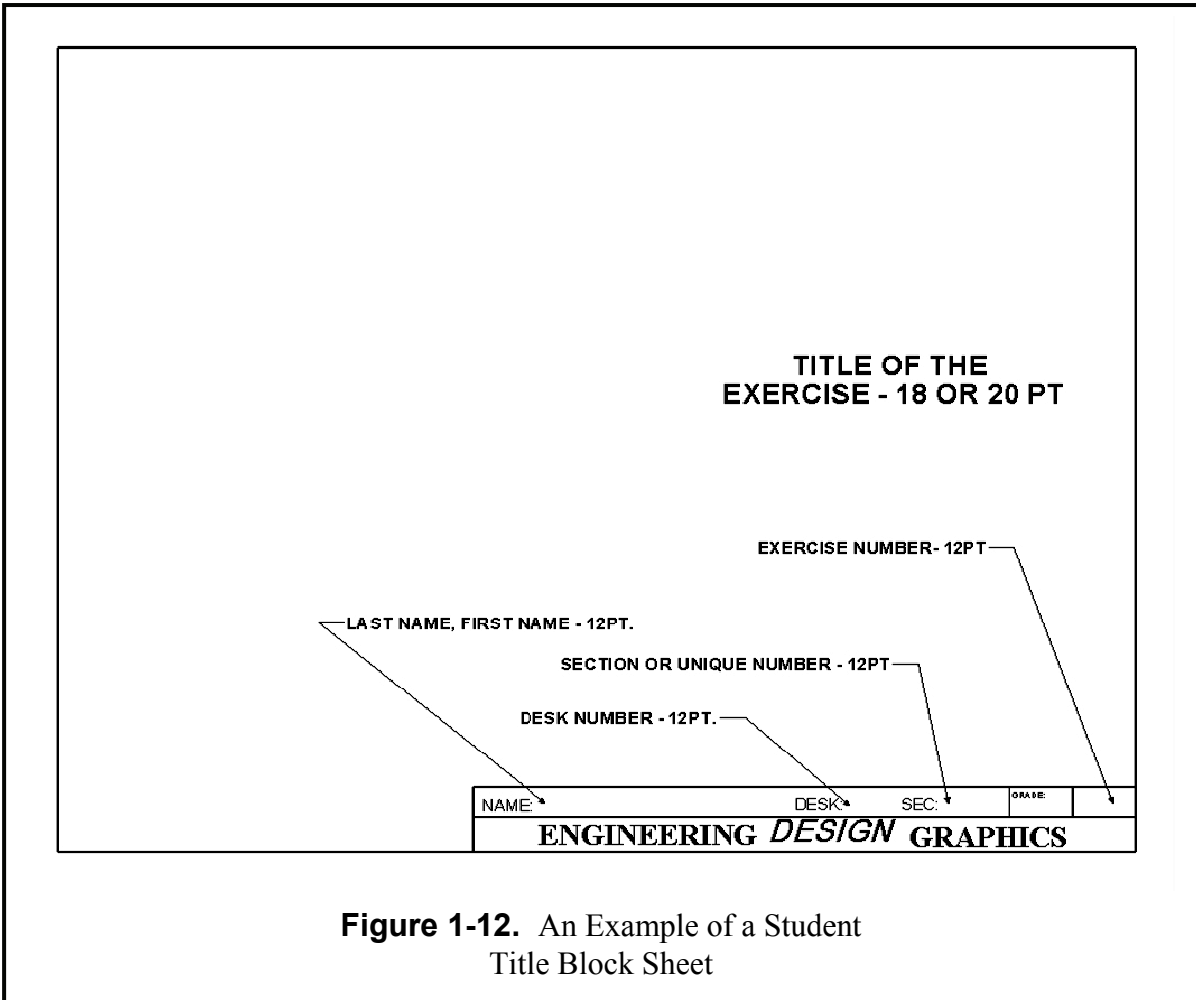
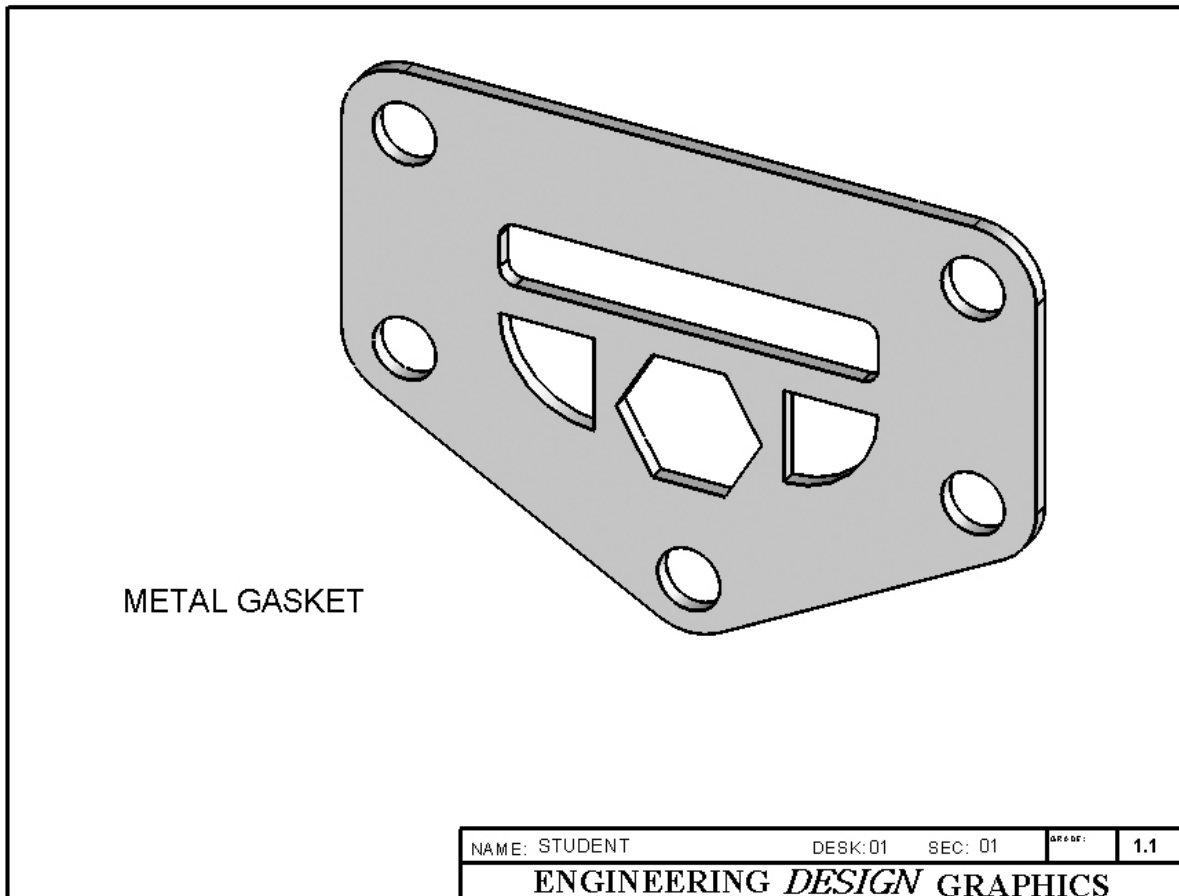

Figure 1-12. An Example of a Student Title Block Sheet
Figure 1-22. Metal Gasket Model Inserted into the Title Block Drawing Sheet.
The next process is to set up a Title Block to reflect the two measurement styles. You may have to draw a title block (see **Figure 1-12**) if one has not been provided. An example of a title block, with suggested dimensions and style, is available in **Appendix A**. If a Title Block has been provided, go to **File** and **Open** that drawing file. Go to the **Tools** pull-down menu and select **Options**. Under the **Document Properties** tab make sure that the **Dimensioning Standard** is set for **ANSI**. Next select **Units** in the left hand column. In the window that appears, activate **IPS (Inch, Pound, Second)**. Three **(3)** decimal places will be all you should use here unless you are doing very high tolerance drawings.
- B. Open the appropriate Title Block drawing sheet (see **Figure 1-12** for example). The Title Block drawing sheet that you open should have the same units as the solid part (metric or inches).
Now you can view your model. On the “View Orientation” window (you should have it push-pinned onto the screen) click **Trimetric**. You should see the thin solid model appear as a trimetric view (see **Figure 1-22**). Also try **Isometric**, **Dimetric**, and **Front** view orientations. You can experiment with some of the viewing operations in SolidWorks. Click the **Rotate View** icon (it appears as circular arrows on the top toolbars). Now rotate your model into different configurations. Also try several **Zoom** commands and the **Pan** command.
Before you finish this exercise, you should print a hard copy for submission to your instructor. *Check with your instructor first for any special printing instructions.* You may need to use a special sheet like the Title Sheet shown in **Figure 1-12**. You can insert the rendered Metal Gasket image into your **Title Block** drawing sheet that was created in the introduction to this chapter, as shown in **Figure 1-22**. To put this object on a Title Sheet, follow the instructions on **Page 1-7**.